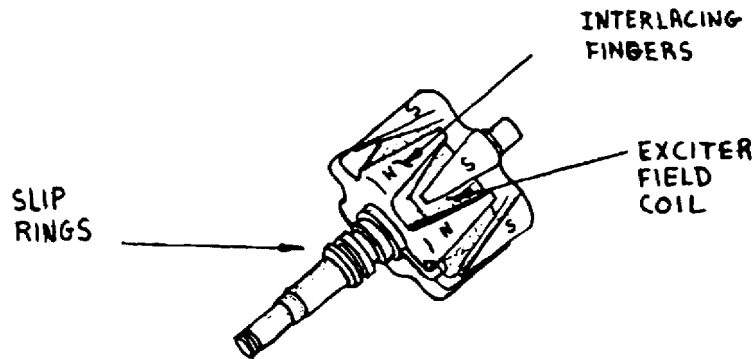

Figure 35A. Rotor assembly.
a. The Leece-Neville generators, models 3002AC and 3002AD, develop three-phase AC voltage which is rectified to a single DC output voltage. The rotor assembly (fig 35A), which houses the exciter field coil, consists of two iron pole pieces with interlacing fingers. The fingers are mounted over the exciter field coil, which has many turns of wire. The core is mounted between the iron pieces and is electrically connected to two sliprings.